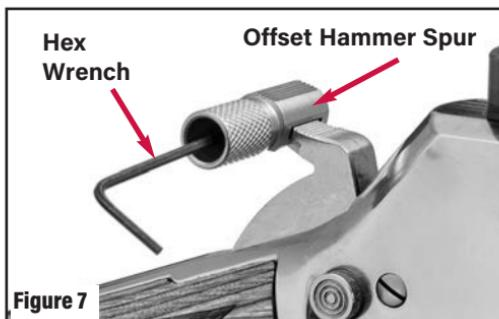

Figure 7
6. Secure the offset hammer spur to the hammer by inserting and tightening the set screw with the hex wrench provided in packaging. See Figure 7. The offset hammer spur may be mounted on either the right or left side of the hammer.